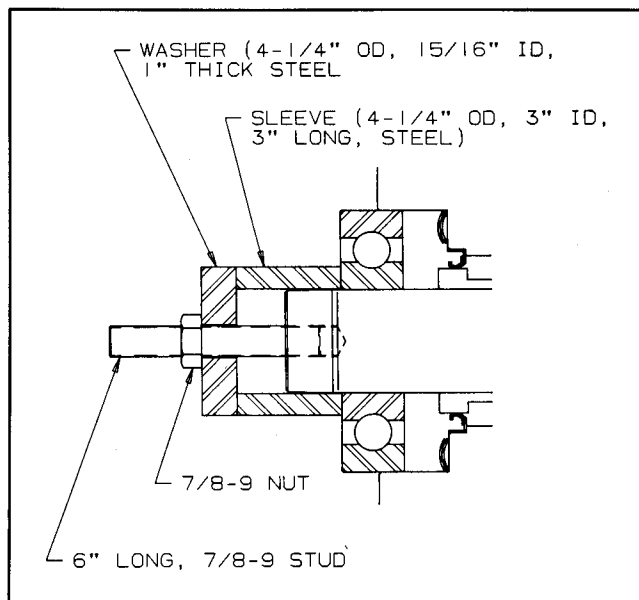

Figure 9 — Gear End Bearing Installation
7. Installation of gear end bearings (15) - Set the blower on its feet. Lubricate the stud and install it in the end of the shaft. Install two wavy washers (29) per bearing in the bearing bore. Apply oil on bearing bore and OD, also lubricate bearing balls. Place bearing on shaft. Install sleeve and washer per Fig. 9. Lubricate nut